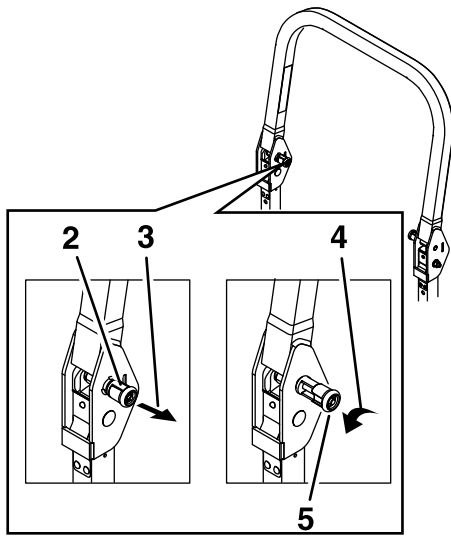

Figure 8
- Pull both knobs out and rotate them 90 degrees so they are not engaged (Figure 8).
- Lower the roll bar to the down position (Figure 8).